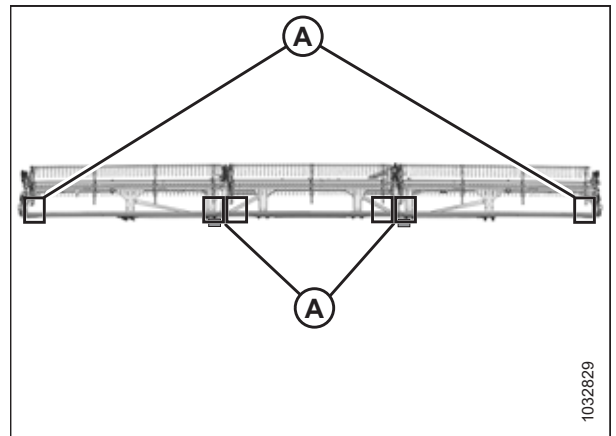

Figure 4.264: FlexDraper® Measurement Locations – Triple Reel
- Triple-reel headers: Figure 4.264, page 427